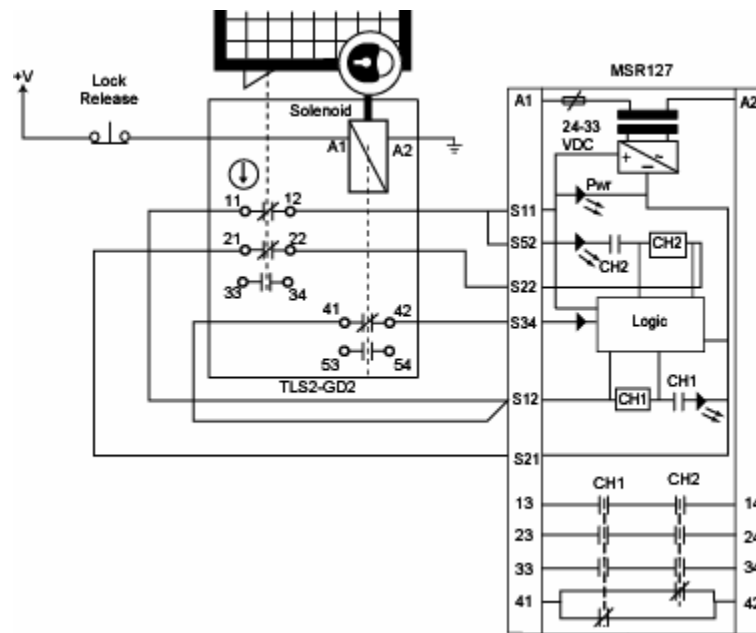

Figure 12. One TLS2-GD2
- i. The input circuit arrangement shown in Figures 12 meets the requirements of EN954-1 Category 4.